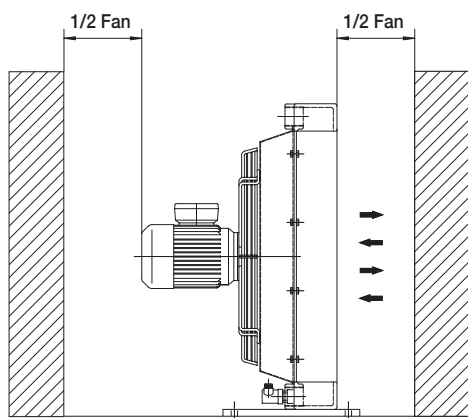

Fig.1
Lo scambiatore deve essere installato in posizione orizzontale e rispettare la distanza minima dalle pareti (vedi fig.1) per assicurare il naturale afflusso dell'aria di raffreddamento.
*The exchanger can be fitted in a horizontal position, respecting the minimum distance from the wall (see fig. 1) so as to ensure a natural flow of cooling air. The exchanger is usually installed on oil tank return piping; it must also be protected from impacts and mechanical vibrations by supports and must be connected to the plant with flexible hoses.*